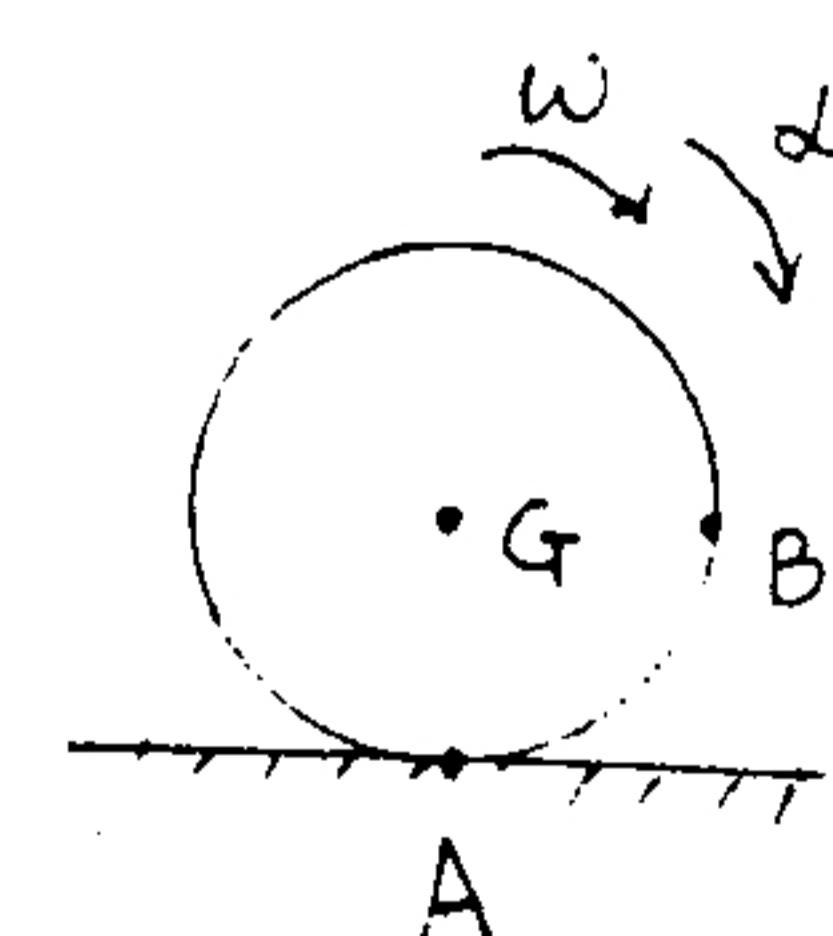

Fig. 5
5. A circular disk rolls without slipping as shown in Fig. 5. At the instant, the angular velocity is ω and angular acceleration is α . Please answer the questions below